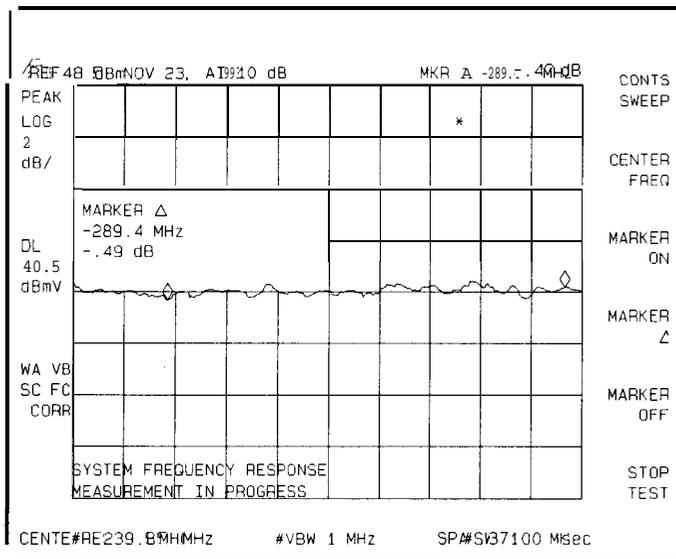

Figure 2-39. System Frequency Response Measurement
7. Press DO FRQ RESP TST to perform the measurement. See Figure 2-39. Also, see Chapter 5 for more information about using DO FRQ RESP TST